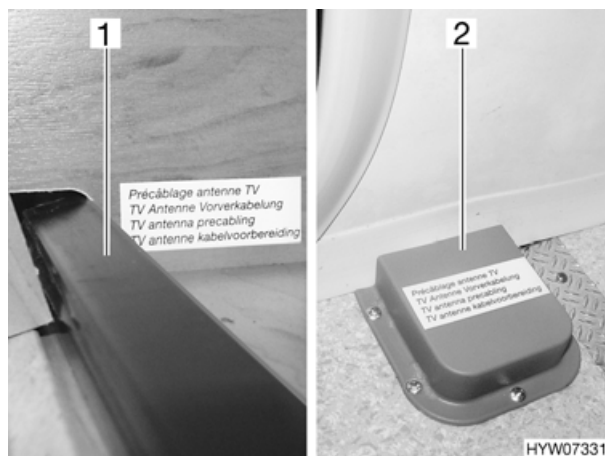

Fig. 64 Antenna connection, pre-assembled
- In the roof storage compartment (Fig. 64,1)
- In the storage compartment on the floor (Fig. 64,2)